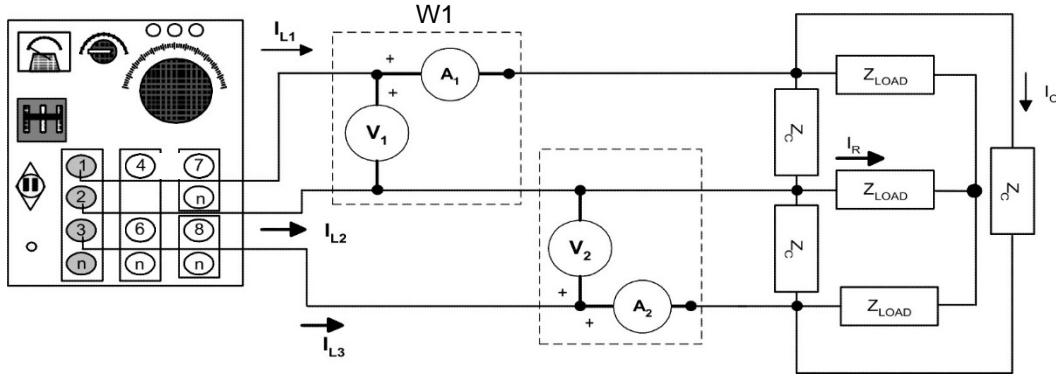

FIGURE 3.5
- 4) Place a delta connected capacitive load ( $Z_C = 100 \Omega$ ) in parallel to the previous resistive load as shown in Figure 3.5. However, the load is now connected to the variable ac output 4, 5, and 6 and the line-to-line voltage is adjusted to 120Vac. Determine: